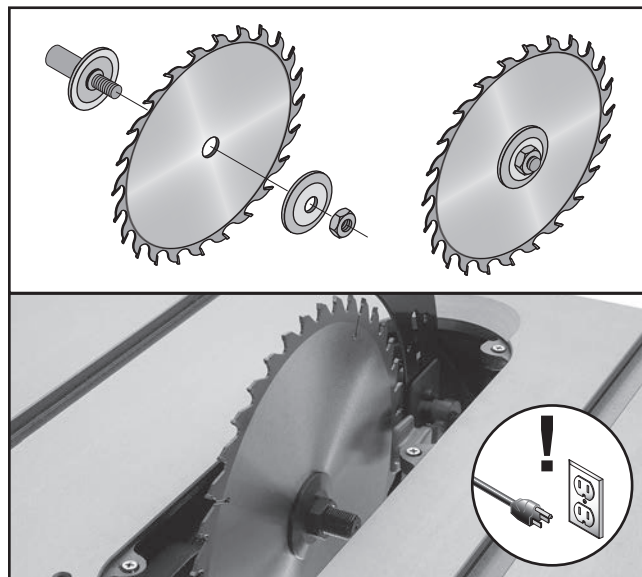

Figure 44. Correct order of installation with teeth facing the correct direction.
4. Install new blade, flange and arbor nut on arbor, as shown in **Figure 44**, with upper teeth facing front of the saw.